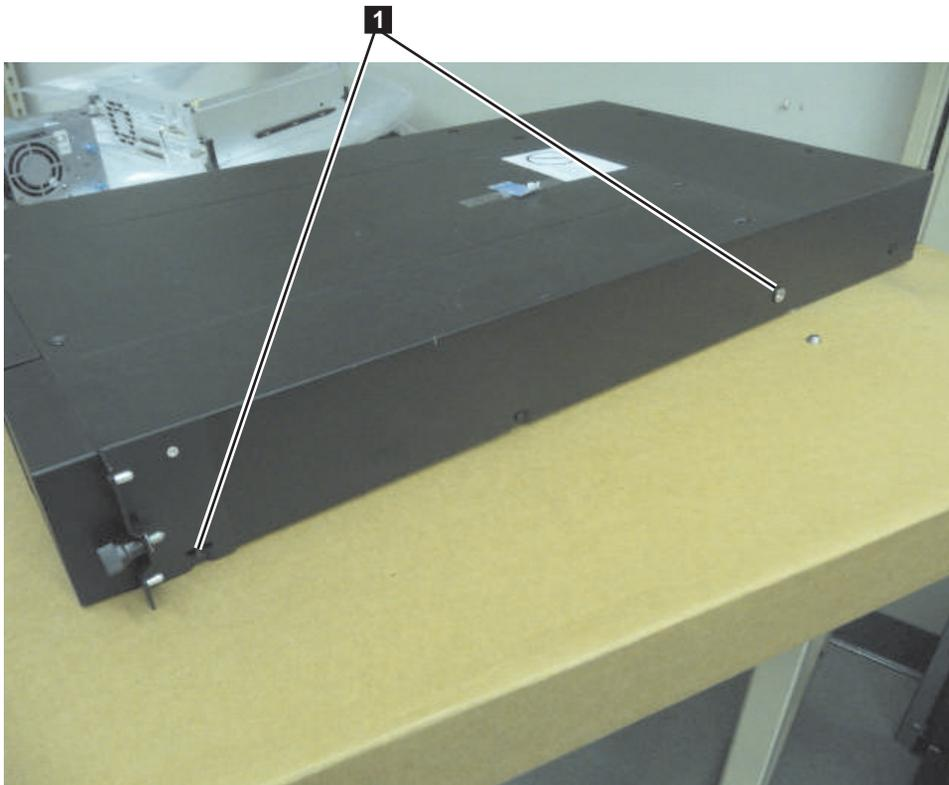

Figure 30. 2U library rack anchors and mounting brackets
4. Using the Torx wrench included in your shipment, remove the screws (**1**) as shown in Figure 30 on page 48. Screw locations on the 4U library are similar.
5. Install the library rack anchors (**2**) as shown in Figure 30 on each side of your library using the longest counter-sunk screws included in the rack kit.